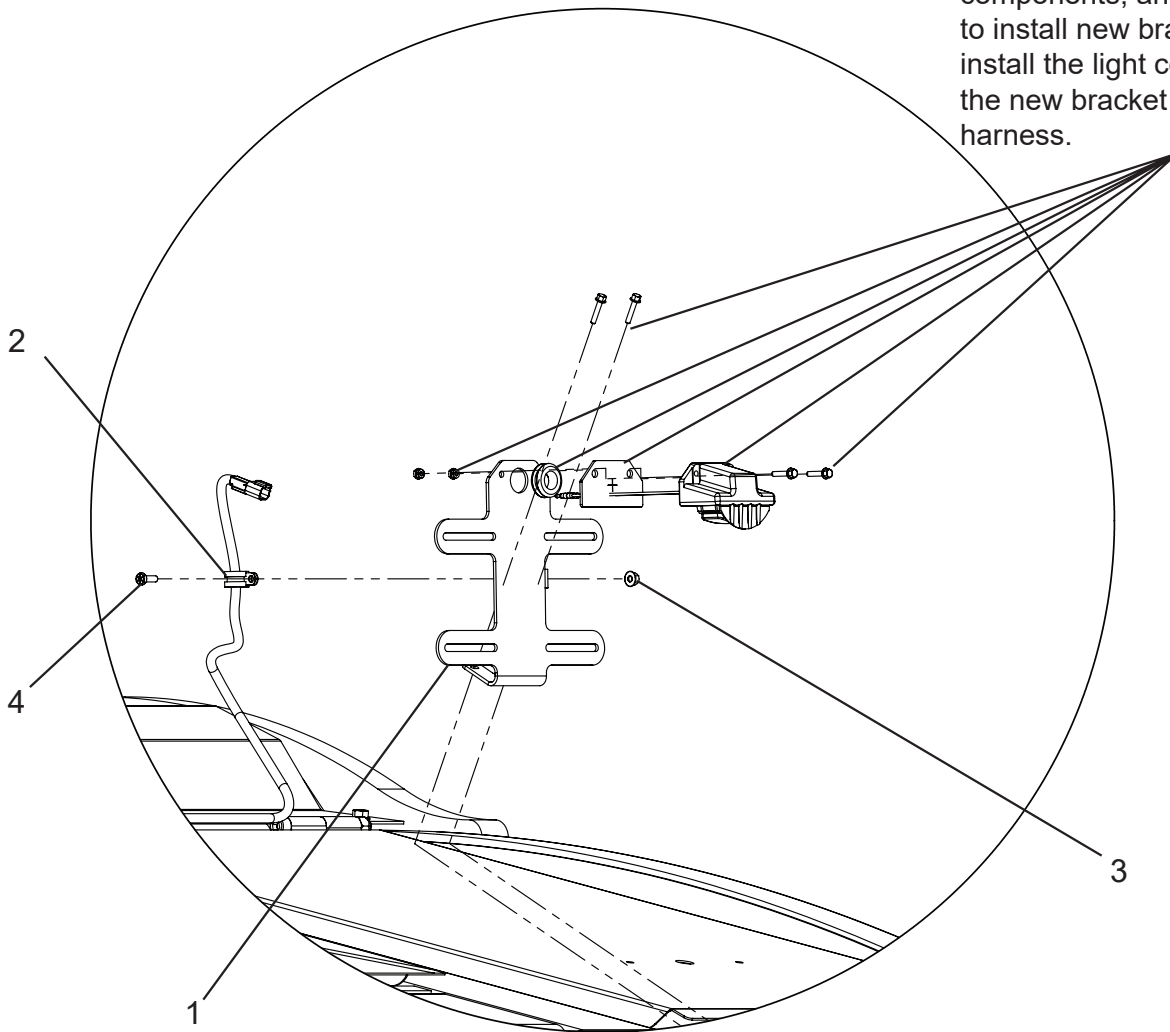

Figure 3
2. Install the new bracket (Figure 3, Item 1) on the tailgate at the same holes as the old bracket.
3. Use the existing hardware from the old bracket (see note in Figure 3) and tighten.
4. Install the new loom clamp (PN 1243632) and route the harness through it. Secure using bolt (PN 1134366 HEX .25-20X.75) and nut (PN 1243909 lock nut .25-20). See Figure 3, Items 2, 3, and 4.
5. Install the existing gaskets on the new bracket (see note in Figure 3).